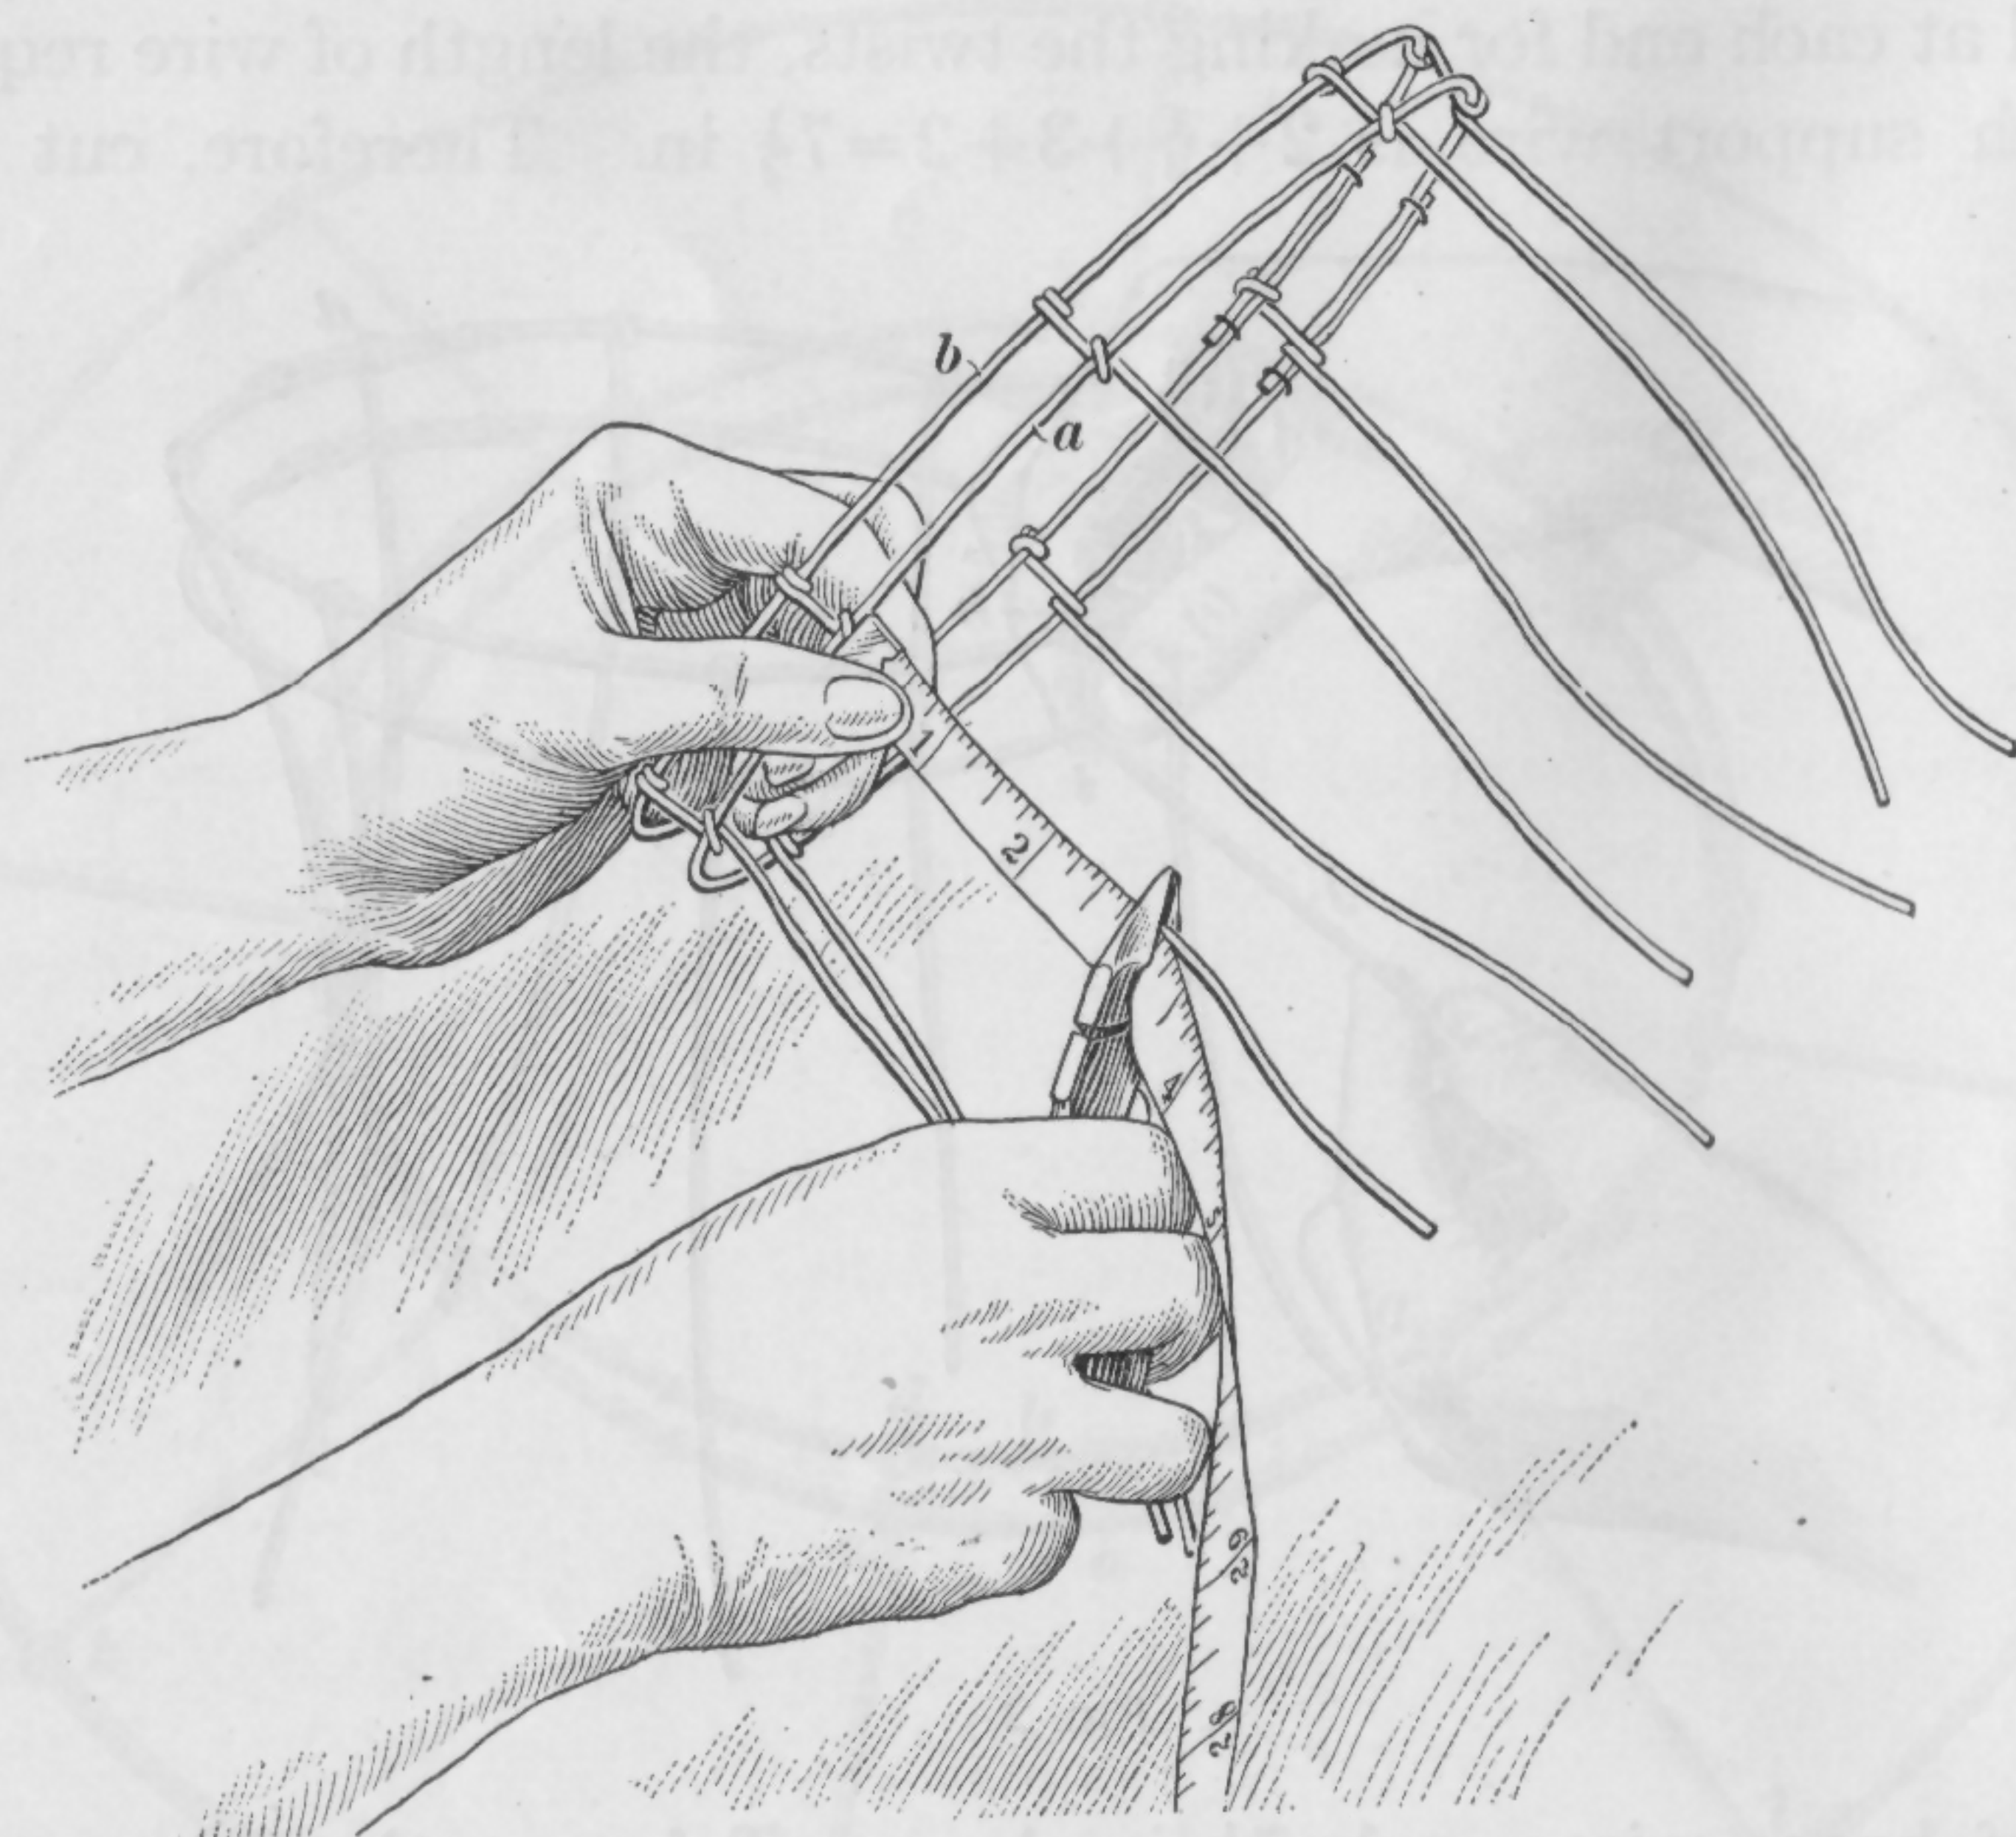
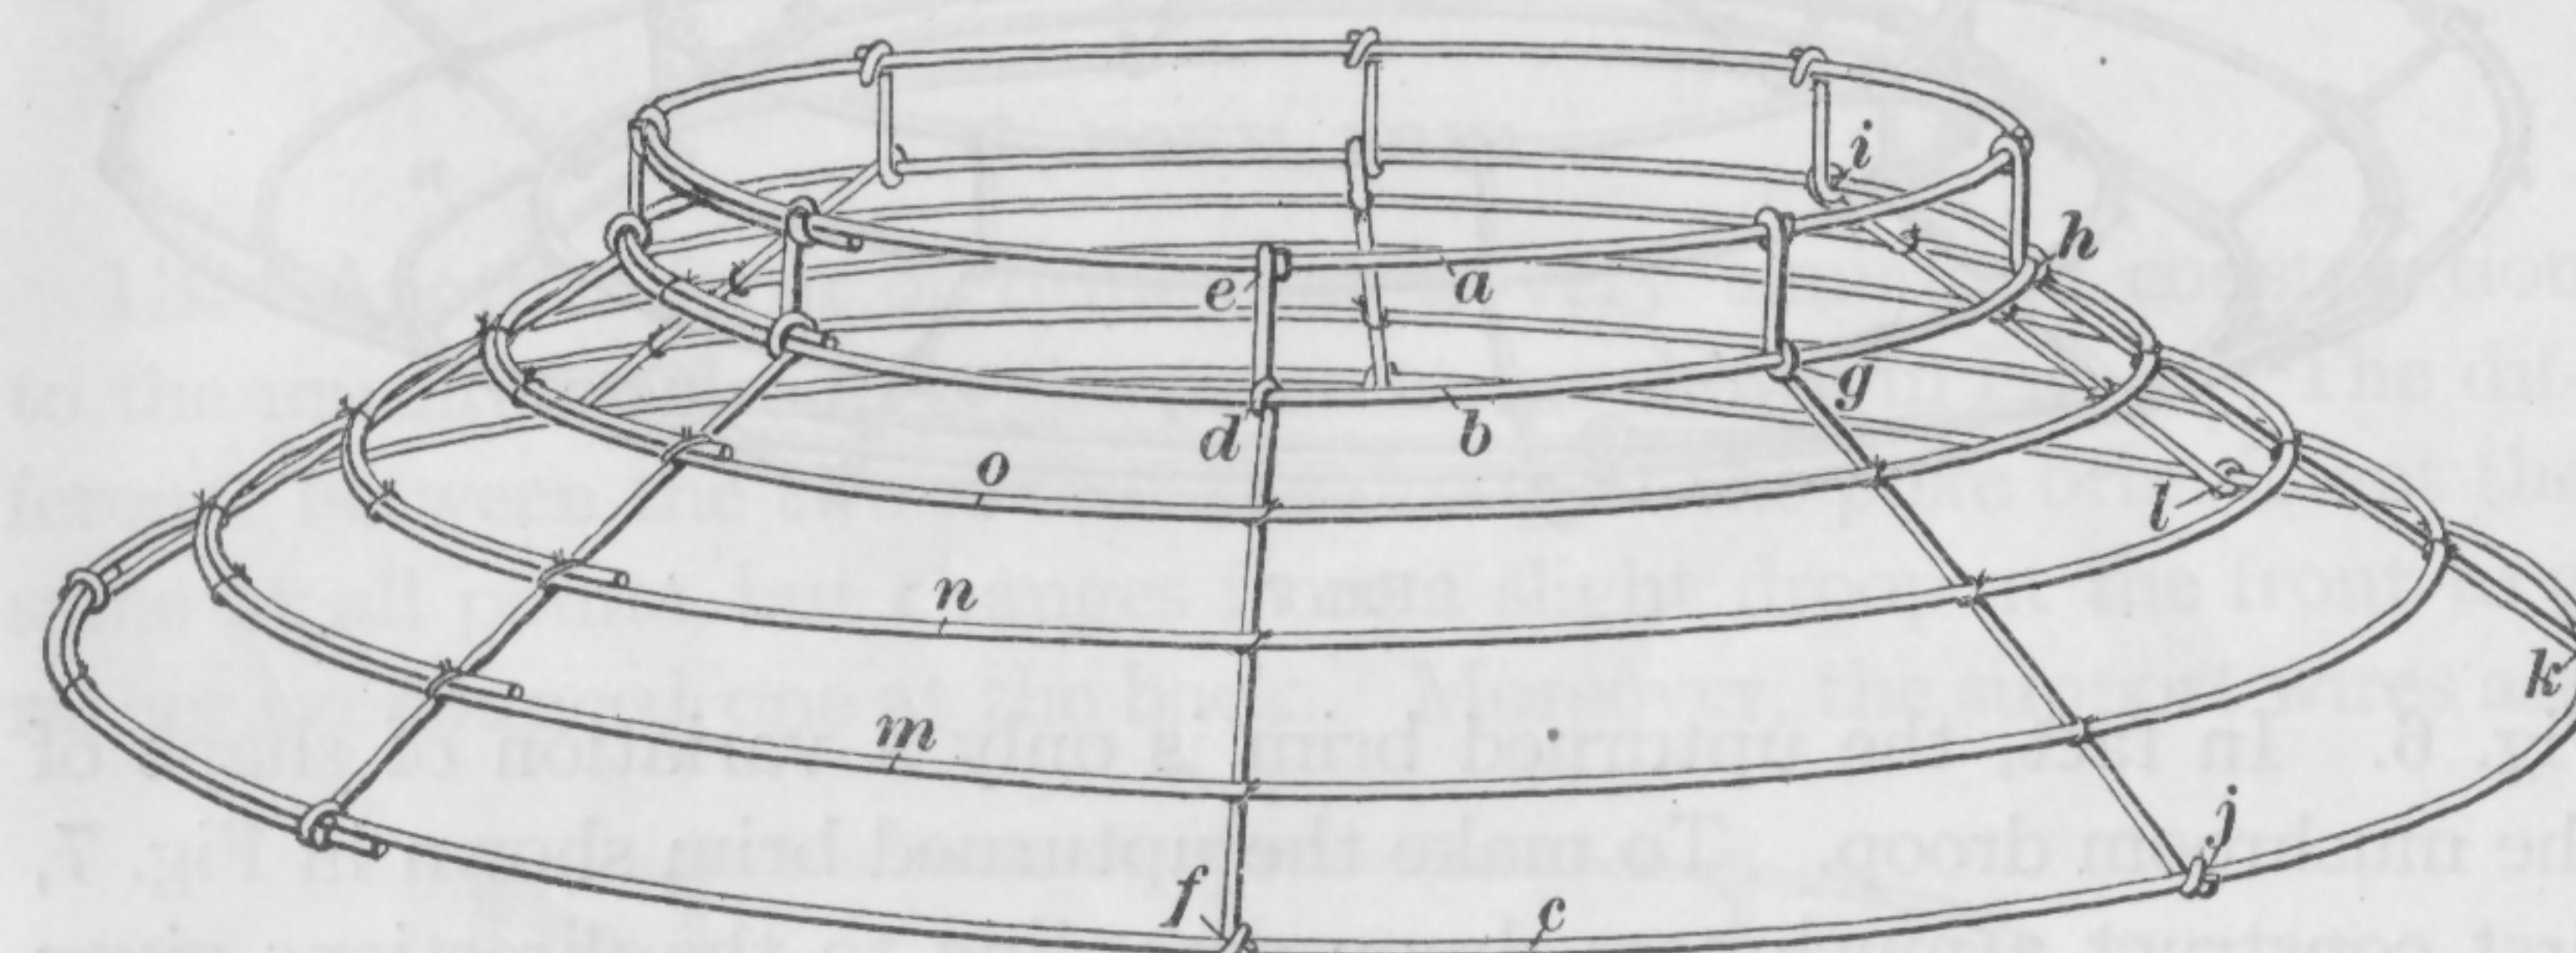
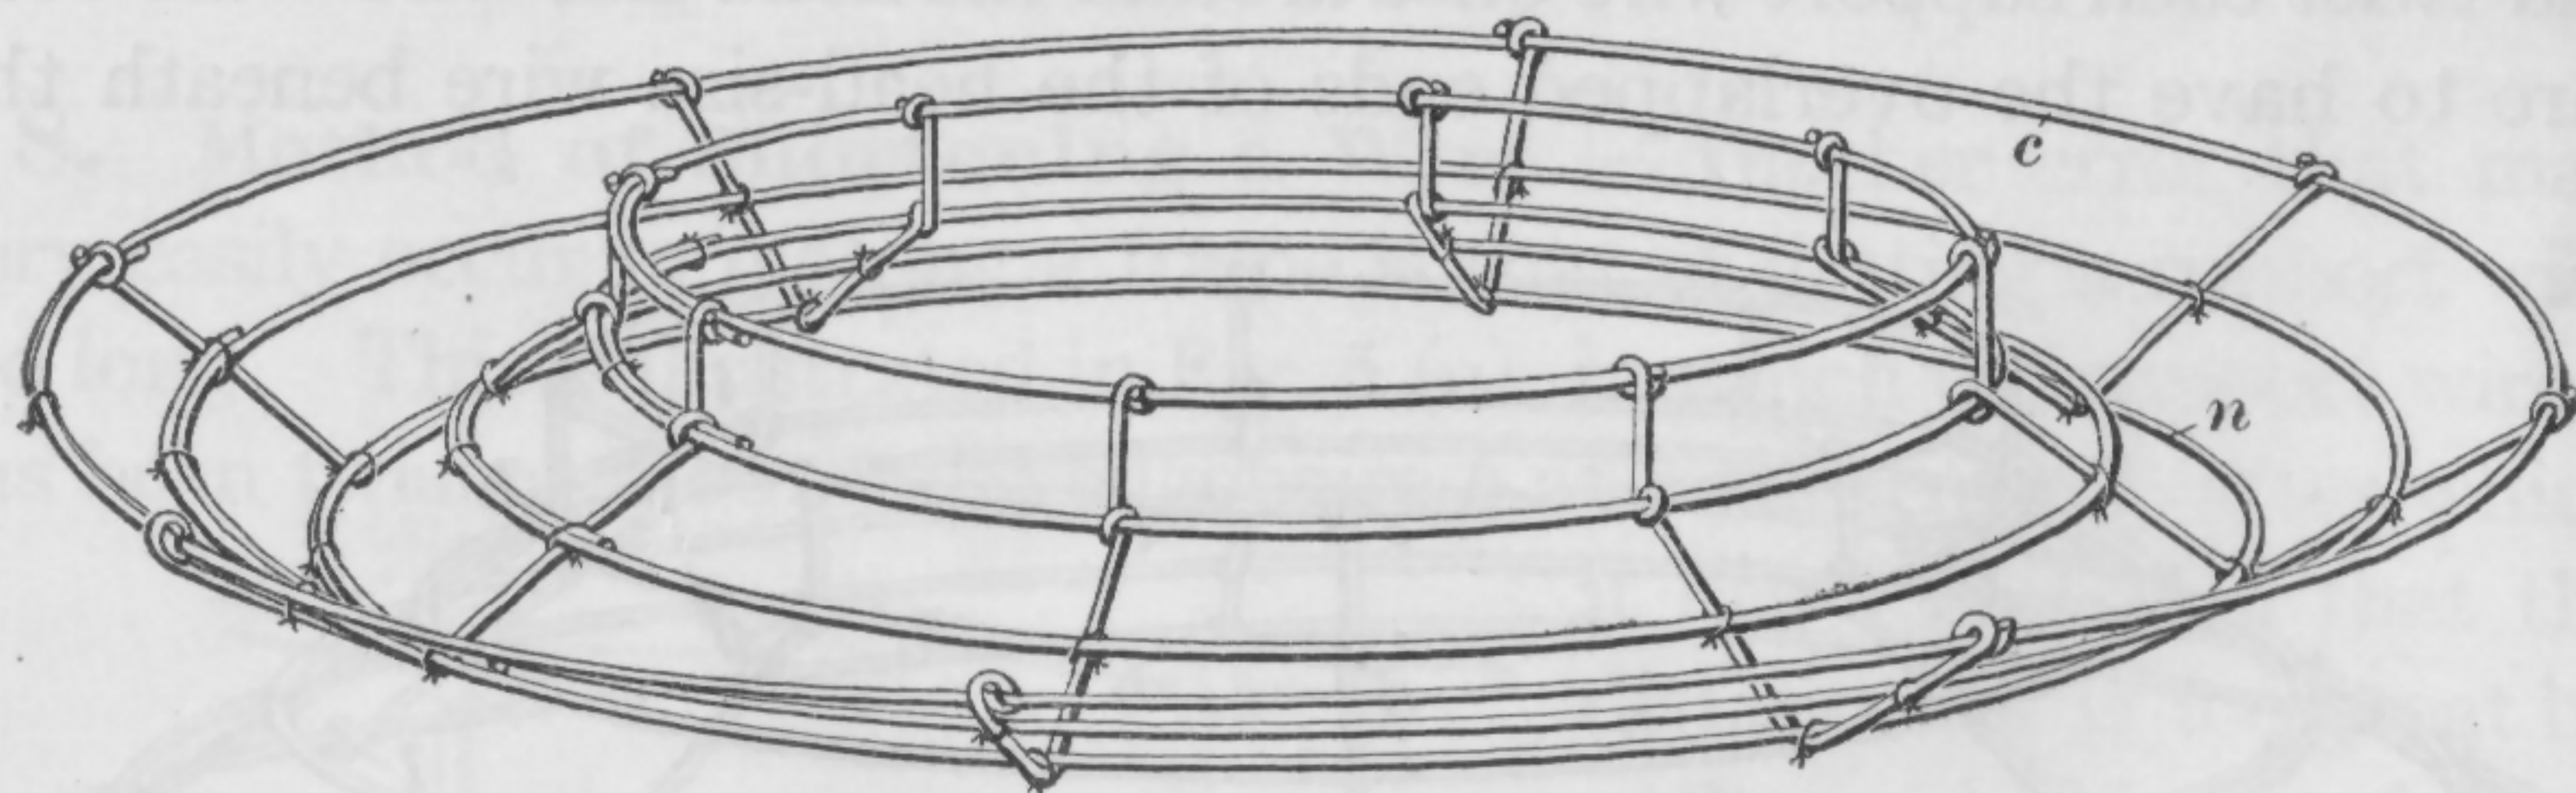

FIG. 3
FIG. 6
FIG. 7
5. After the support wires have been twisted around the head-size wire at the eight equally spaced points, proceed as shown in Fig. 3. Take the tape measure and place one end against the head-
**9.** The form of brim illustrated in Fig. 6 is called the **mushroom droop**. It consists of a top brace wire *a* and a head-size wire *b* that are circular, and each 24 in. around. The edge wire *c* is 43 in. around, the height *de* is  $\frac{3}{4}$  in., and the width *df* of the brim is  $3\frac{3}{4}$  in. The head-size wire and the top brace wire are made in the usual manner. There are eight support wires, and if 2 in. is allowed at each end for twisting around the top brace wire and the edge wire, the length required for each will be  $2 + \frac{3}{4} + 3\frac{3}{4} + 2 = 8\frac{1}{2}$  in.; therefore, cut eight pieces of brace wire, each  $8\frac{1}{2}$  in. long. Mark off the top brace wire *a* into eight equal spaces and at these marks attach the
**10.** Now, as the brim is to be  $3\frac{3}{4}$  in. wide, cut a paper gauge of this size, or use the tape measure as illustrated in Fig. 3, and from the points *d, g, h, i*, etc., Fig. 6, mark off the lengths *df, gj, hk, il*, etc., on the support wires and make a bend at each of the points thus marked. Take the edge wire *c* and mark it off into eight equal parts by the use of a paper gauge made as described previously. Set it on the bent-up ends of the support wires, with the overlap below the overlap of the head-size wire, and twist the support wires around it at the points thus marked. Cut off the support wires close to the edge wire and press all the twists firmly. The edge wire will then be about  $2\frac{1}{4}$  in. below the head-size wire, and the brim will droop evenly all around. The brace wires *m, n*, and *o* must now be added to complete the construction of the brim and give it the necessary rigidity. These brace wires are fastened on top of the support wires, with the overlaps at the back. The method of attaching them is exactly the same as that used in attaching brace wires to the support wires of a crown. They are spaced an equal distance apart. Eight yards of brace wire will be found sufficient to make this brim.
11. The form of **upturned brim** shown in Fig. 7 is made up of the same number and lengths of wires as the mushroom droop in
Fig. 6. In fact, the upturned brim is only a variation of shape of the mushroom droop. To make the upturned brim shown in Fig. 7, first construct a mushroom droop according to the directions given in the preceding two articles. Then, at the points where the brace wire *n*, Fig. 6, is tied to the support wires, bend all the support wires upwards at the same angle, so that the edge wire will be at the same height all around. The result will be the upturned brim shown in Fig. 7. If the work is done accurately, the edge wire *c* will be just as far above the brace wire *n* as it was below that wire in Fig. 6.